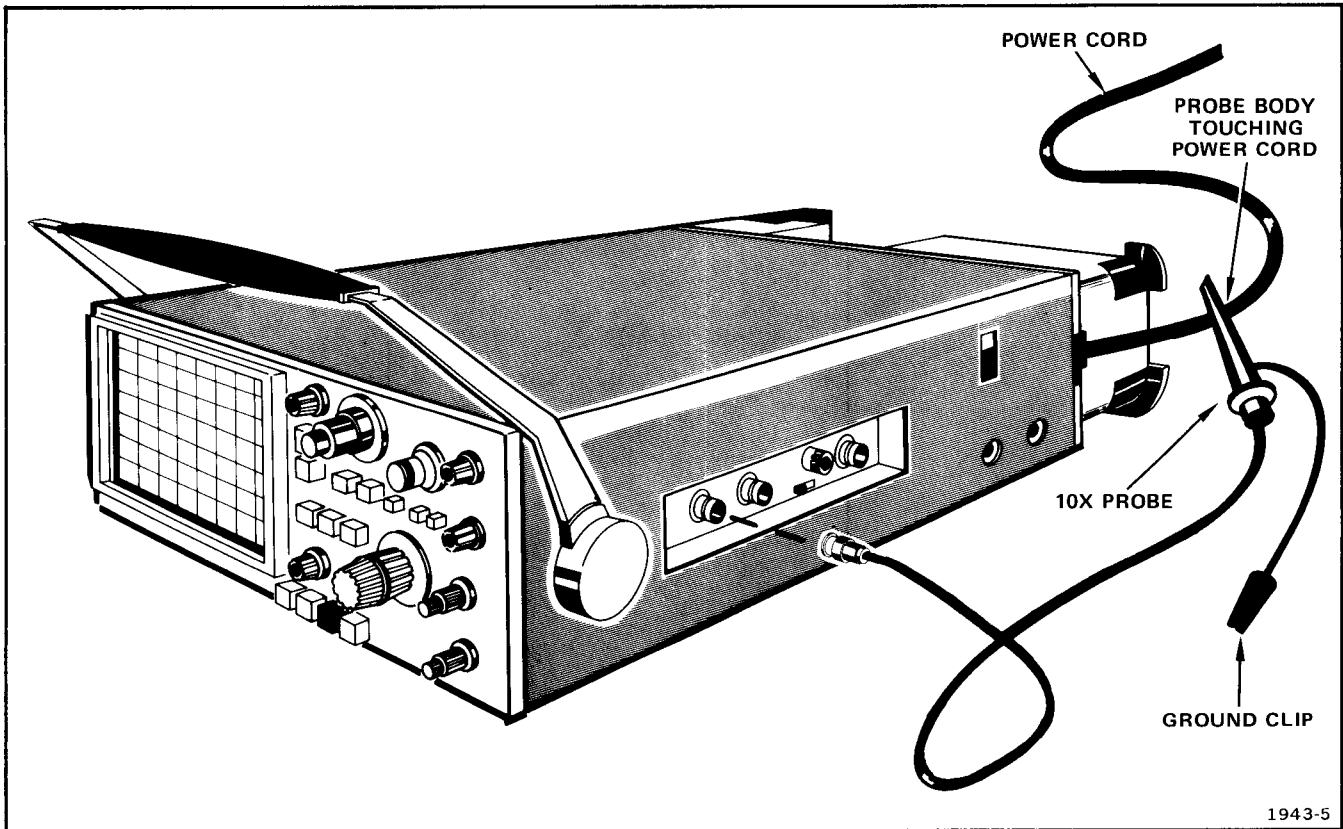

Fig. 5-5. Equipment setup.
b. Connect equipment as shown in Fig. 5-5.